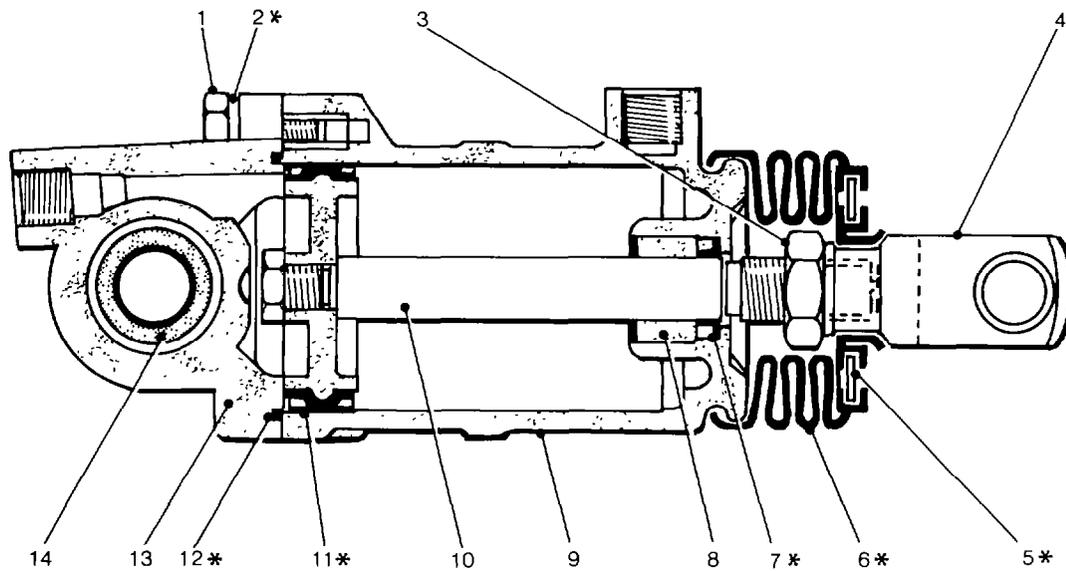

Figure 84 Shift Cylinder (Wabco)
98. **Dismantling.** Dismantle the shift cylinder as follows (see Fig 84):
- a. Remove the bellows cover (6) from the cylinder (9).
- b. Secure the head of the output shaft (4); loosen the nut (3) and unscrew the head from the shaft.
- c. Remove the bellows cover and the nut from the piston (10) and remove the filters (5) from the bellows cover.
- d. Unscrew the four bolts (1) from the cylinder and remove the spring washers (2) from the bolts.
- e. Remove the cover (13) from the cylinder and remove the O-ring (12) and the bush (14) from the cover.
NOTE All parts marked * in Fig 84 should be replaced.